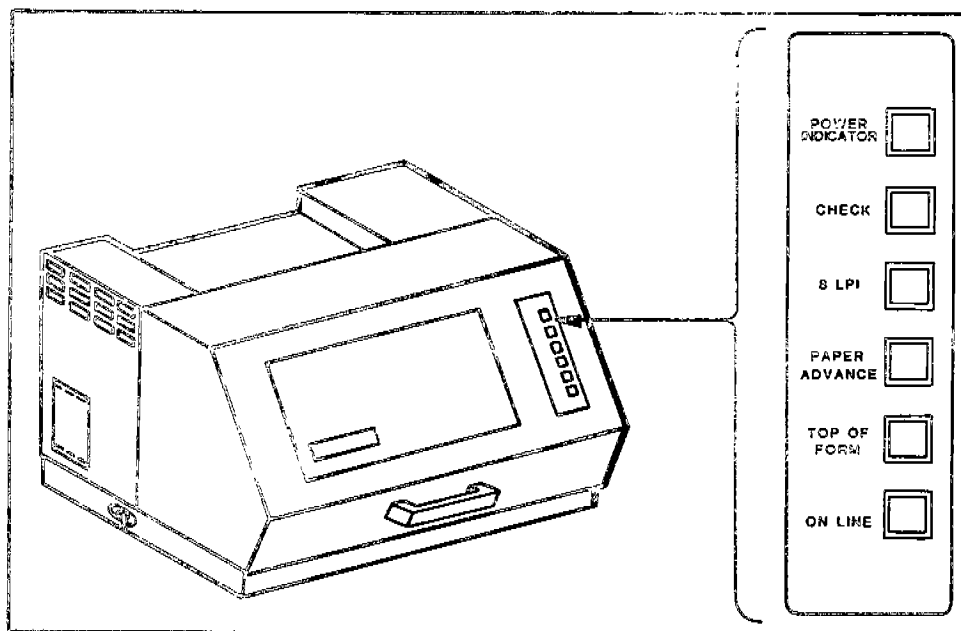

FIGURE 2-1.
P-Series controls and indicators are located on the operator panel (Figure 2-1). The ac power switch is located on the left base of the printer. Table 2.1 lists and describes the function of each switch and indicator.
- FRONT PANEL SWITCHES AND INDICATORS - Switches and indicators located on the front panel are described in Table 2-1 and illustrated in Figure 2-1.